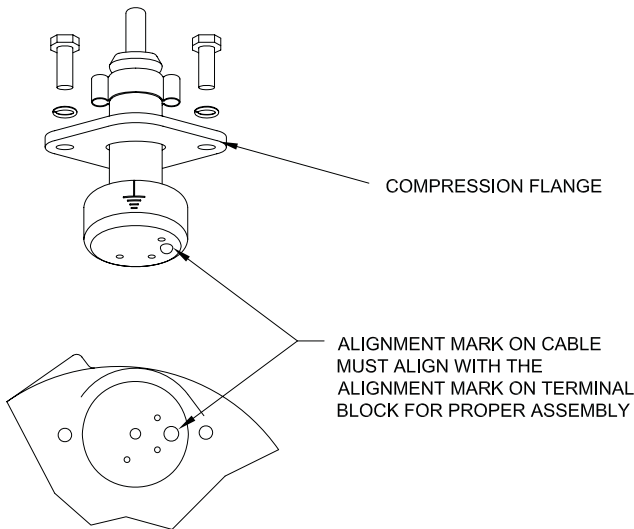

FIGURE 2
Power/Control Cable- Insert female end of cable plug into housing bore aligning alignment mark with hole in terminal block see Figure 2. Tighten bolts on compression flange until flush with motor housing.
- Install power cord and level control cord to pump. Make sure alignment mark on cord aligns with alignment mark on terminal block. Used hardware provided to mount cord flange to pump. (Fig. 2 previous page)